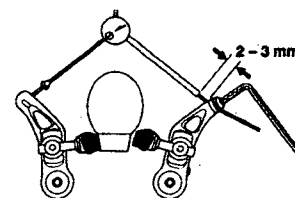

Fig. 38
Step 13 - Loosen the cable pinch bolt and allow 2 to 3 millimeters of slack to pull through the bolt. There should be a slight gap between the pinch bolt and the end of the carrier housing (figure 38). Retighten the pinch bolt to its final manufacturer's torque specifications.